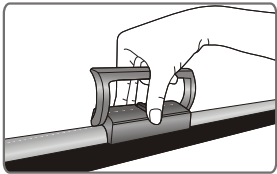

Figure 13
1. Grasp the handle and retract the screen into the casing till the handle base is firmly fastened in the tube lock ( Figure 13 - 15 ).